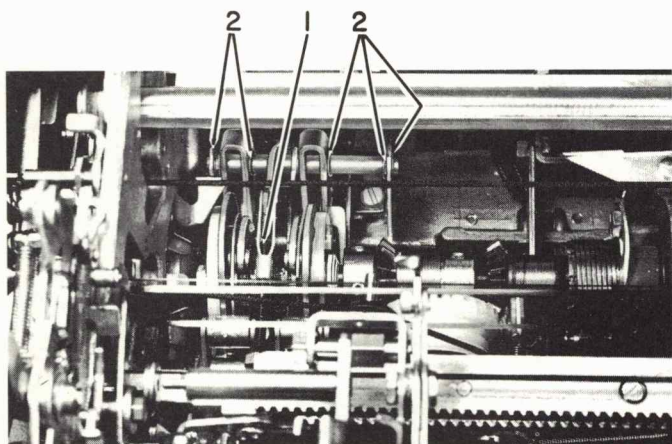

FIGURE 40. Operational Cam Check Pawl and Escapement Cam Follower Removal
2. Disconnect the escapement link (#1, Figure 40).
3. Remove all C-clips from the check pawl shaft (#2, Figure 40).